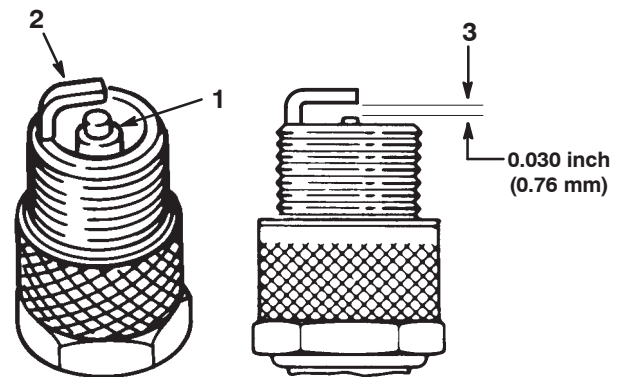

Figure 36
1. Look at the center of the spark plug(s) (Fig. 36). If you see light brown or gray on the insulator, the engine is operating properly. A black coating on the insulator usually means that the air cleaner is dirty.
2. Check the gap between the center and side electrodes (Fig. 36).
Note: Bend the side electrode (Fig. 36) if the gap is not correct.